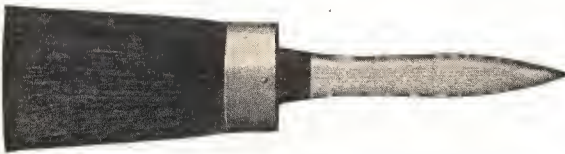

FIG. 5
**Oval Paint and Varnish Brush, Figure 5:** A Chinese bristle oval paint or varnish brush, developed from the old style round paint, or pound brush as it was called, but in every way superior to it. Made chiseled. Made both solid and open center, but the open center brushes are in every way the better tools, having a greater working length of bristle. They are much more easily kept from getting